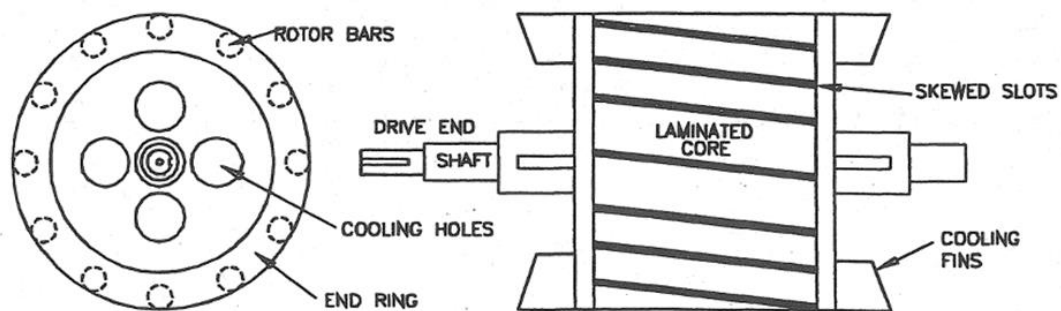

Figure 4 - Basic construction of a squirrel cage rotor
11. A typical squirrel cage rotor consists of comparatively large bars of conducting material (usually aluminium) cast into the slots in the rotor and joined at each end of the rotor with conducting 'end rings'. No insulation is necessary between the rotor bars and the laminated steel rotor core because the rotor winding has a much lower resistance than the rotor core. An outline of the construction of a typical squirrel cage rotor is shown in Figure 4, but you should bear in mind that rotor bars and end rings can have other shapes and they can be made from other materials (such as copper).